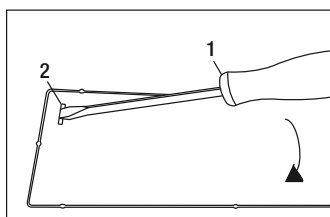
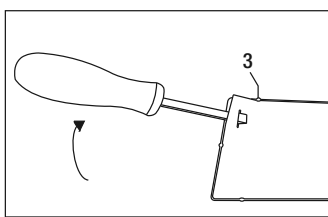
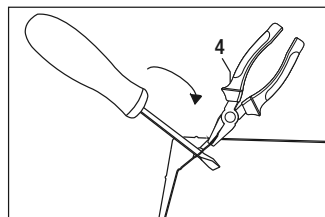

Fig. 9a
Fig. 9b
Fig. 9c
- To remove the vent opening, insert a flat head screwdriver (1) into the corner slot (2) and pry it upwards and away from the edge (See Fig. 9a). Once the corner slot is folded up, insert the screwdriver into the slot from the opposite direction and continue to bend it until the nearest tabs (3) retaining the cover are broken (see Fig. 9b). Continue to pry the cover upwards and away using pliers (4) to break the remaining tabs holding the cover in place (see Fig. 9c).